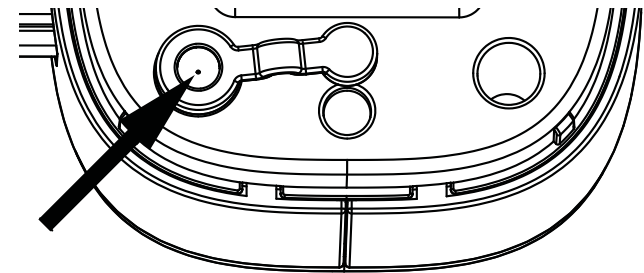

Fig. 1
1. **Important:** When the milk function can not come out the milk foam, please use a 0.2mm needle to unclog below air hole! (see Fig. 1)